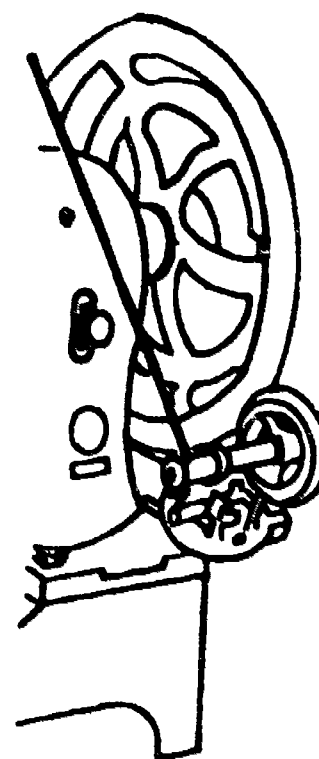

Figure 4. Winding the Bobbin.
f. Place the bobbin on the spindle of the bobbin winder as shown in figure 4.